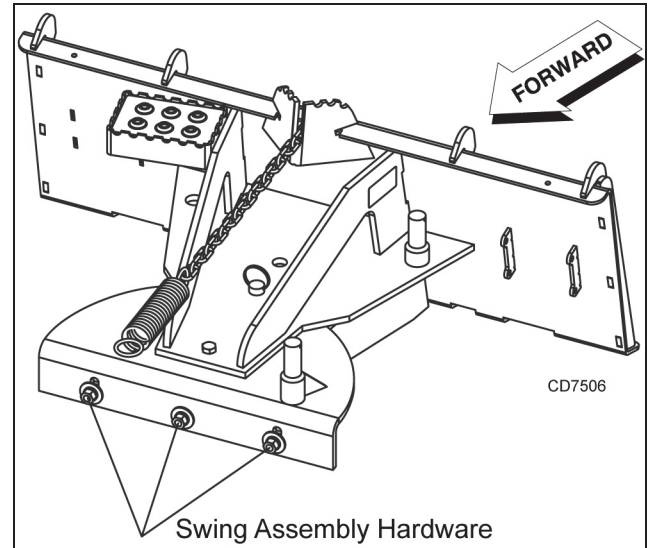

Figure 6. Swing Assembly Hardware
6. If adjustment is required: loosen hardware that attaches the swing assembly to the brush head assembly (Figure 6); lower the high side of the brush head until both sides are equal distance from the ground. Tighten hardware.